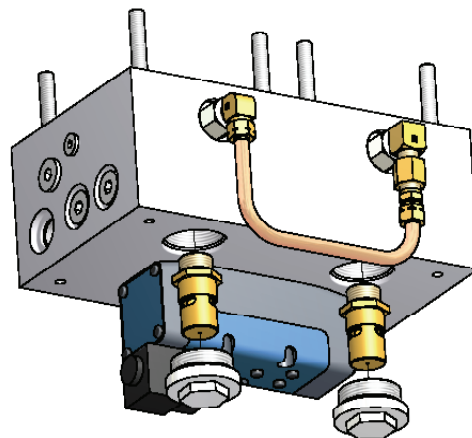

Figure A.3 Dryer Block Check Valves
1. Remove the caps/plugs from the underside of the dryer block. See Figure A.3.